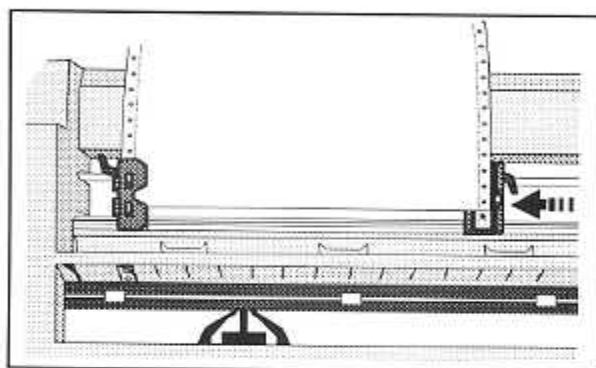

Figure 3-7. Loading Paper Into the Tractors
6. Mount the paper onto the first three pins of both tractors, as shown in figure 3-7, and close the tractor doors. You'll need to slide the right tractor left or right as needed until its pin belt aligns with the paper holes.